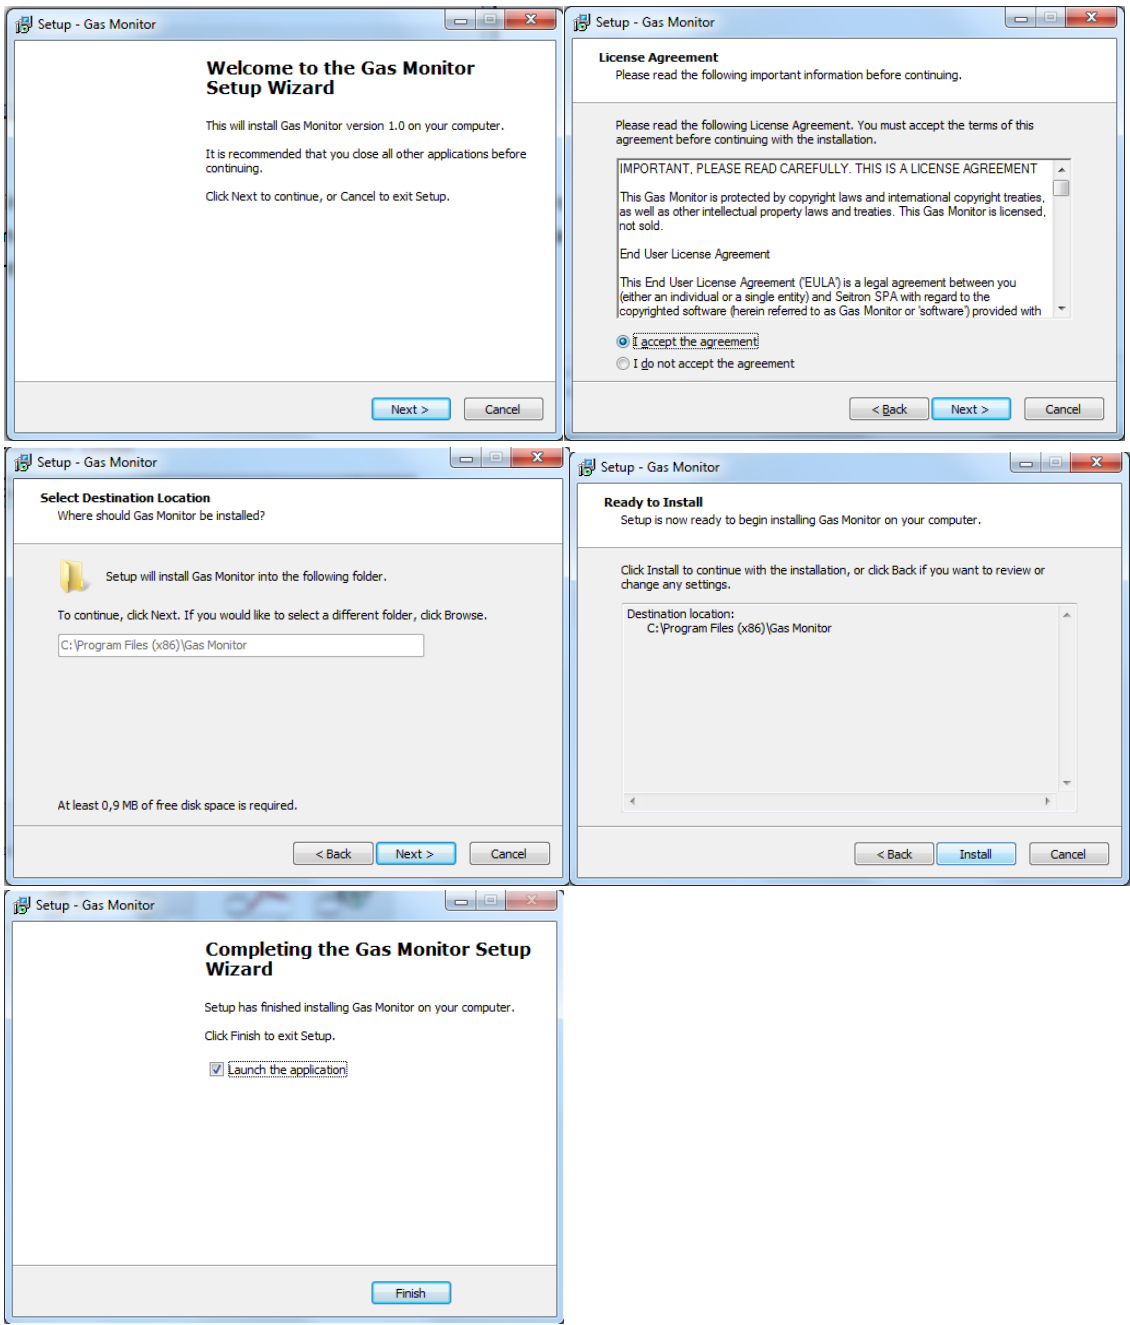

Figure 4
5. When the system will be ready for installation, click on **Next** (Figure 4), then on **Next**, then again on **Next** and finally on **Install**. In the end, it is possible to launch the **Gas Monitor**.